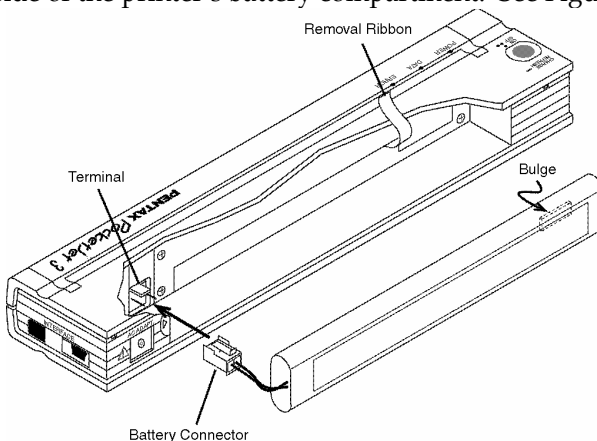

FIGURE 11. Pushing the battery connector into the terminal
3. Gently push the battery connector into the terminal on the inside of the printer's battery compartment. See Figure 11.
CAUTION: Do not force the battery connector into the terminal. If you are having difficulty inserting the connector, make sure the connector is not upside down. See Figure 11.